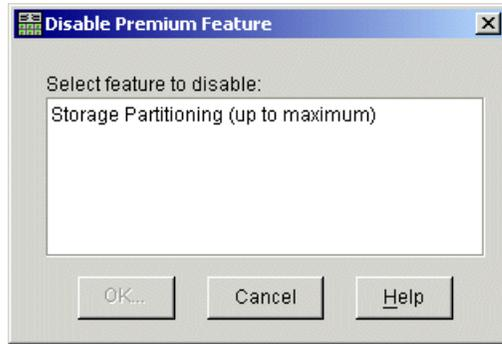

Figure 5-20 Disable Premium Feature window
2. The Disable Premium Feature window is displayed (see Figure 5-20):